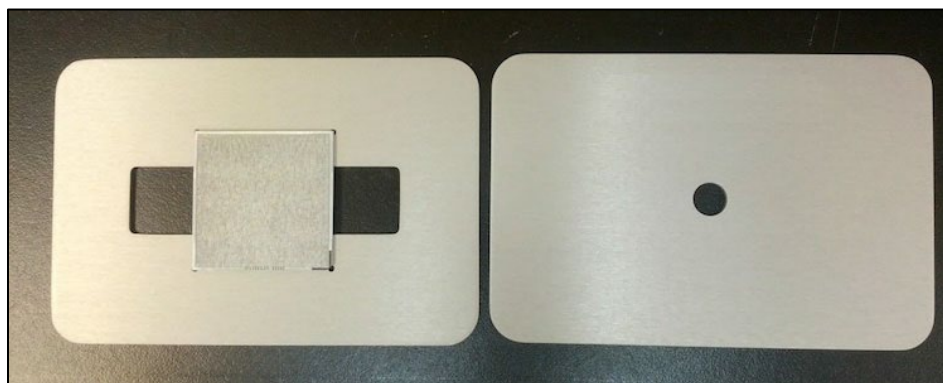

Figure 50. Chip spinner and plate (left) and balance plate (right).
- b. Counterbalance with either a second chip spinner and chip or with the balance plate (Figure 50).